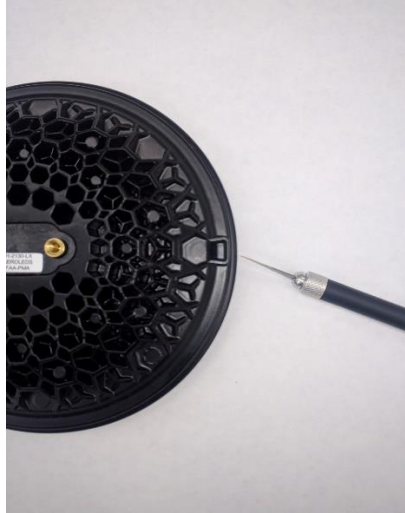

Figure 6-1 Alignment Key
Dual mode lights are equipped with two terminals plus a three-wire pigtail. When aircraft power and ground are applied to the terminals, and ground or no connection is applied to the three pigtail wires, the light will illuminate. When aircraft power is removed from the terminals in this configuration the light will not illuminate. When aircraft power and ground are applied to the terminals and the yellow wire in the pigtail, the light will pulse on and off at a 1Hz rate. Refer to the general installation diagrams in figures 6-1 through 6-4 and note that the dual mode lights can operate in Wig-Wag mode by connecting the blue and green master/slave wires from the pigtail of one light to the other while operating the lights in the pulse mode described above.
- b. Install LED light(s) in brackets using retained hardware from the removal process. Refer to Figure 6-1 and ensure alignment key mates with that of the mounting bracket. Proper orientation of the light is required to ensure the beam is projected horizontally and vertically from center while in operation. When installing a taxi light, ensure that the Fresnel ridges on the face of the light are aligned vertically to produce a horizontal light pattern.